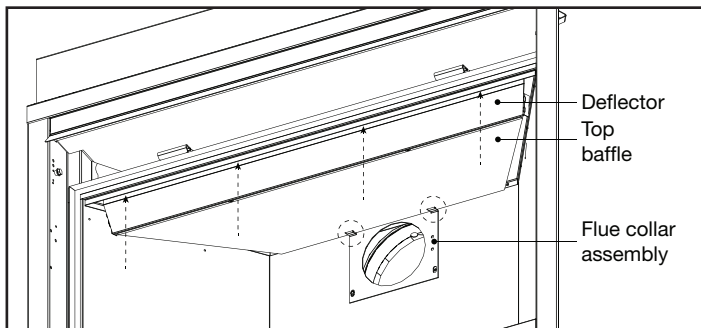

Fig. 4
- Replace the deflector. Rest the front edge of the top baffle in the four slots on the deflector. Rest the rear edge of the top baffle (complete with deflector) on the tabs of the flue collar assembly. Reattach the deflector (complete with top baffle) using the four screws removed in step C (**Fig. 4**). Install the log set, glass door and safety barrier.